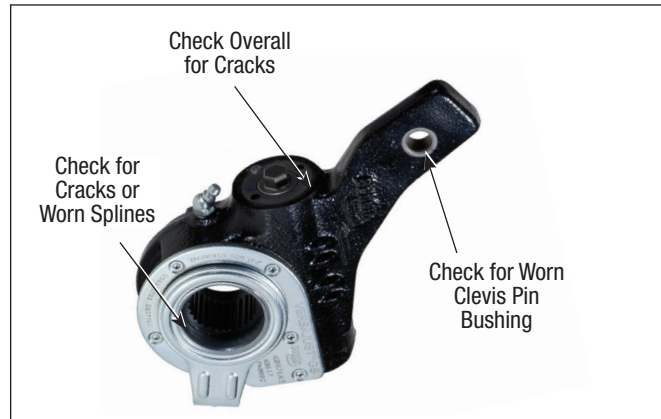

Figure 42 – Automatic Slack Adjuster Inspection
1. Check the clevis pin bushing for cracks and wear. Refer to Figure 42. Replace as necessary.